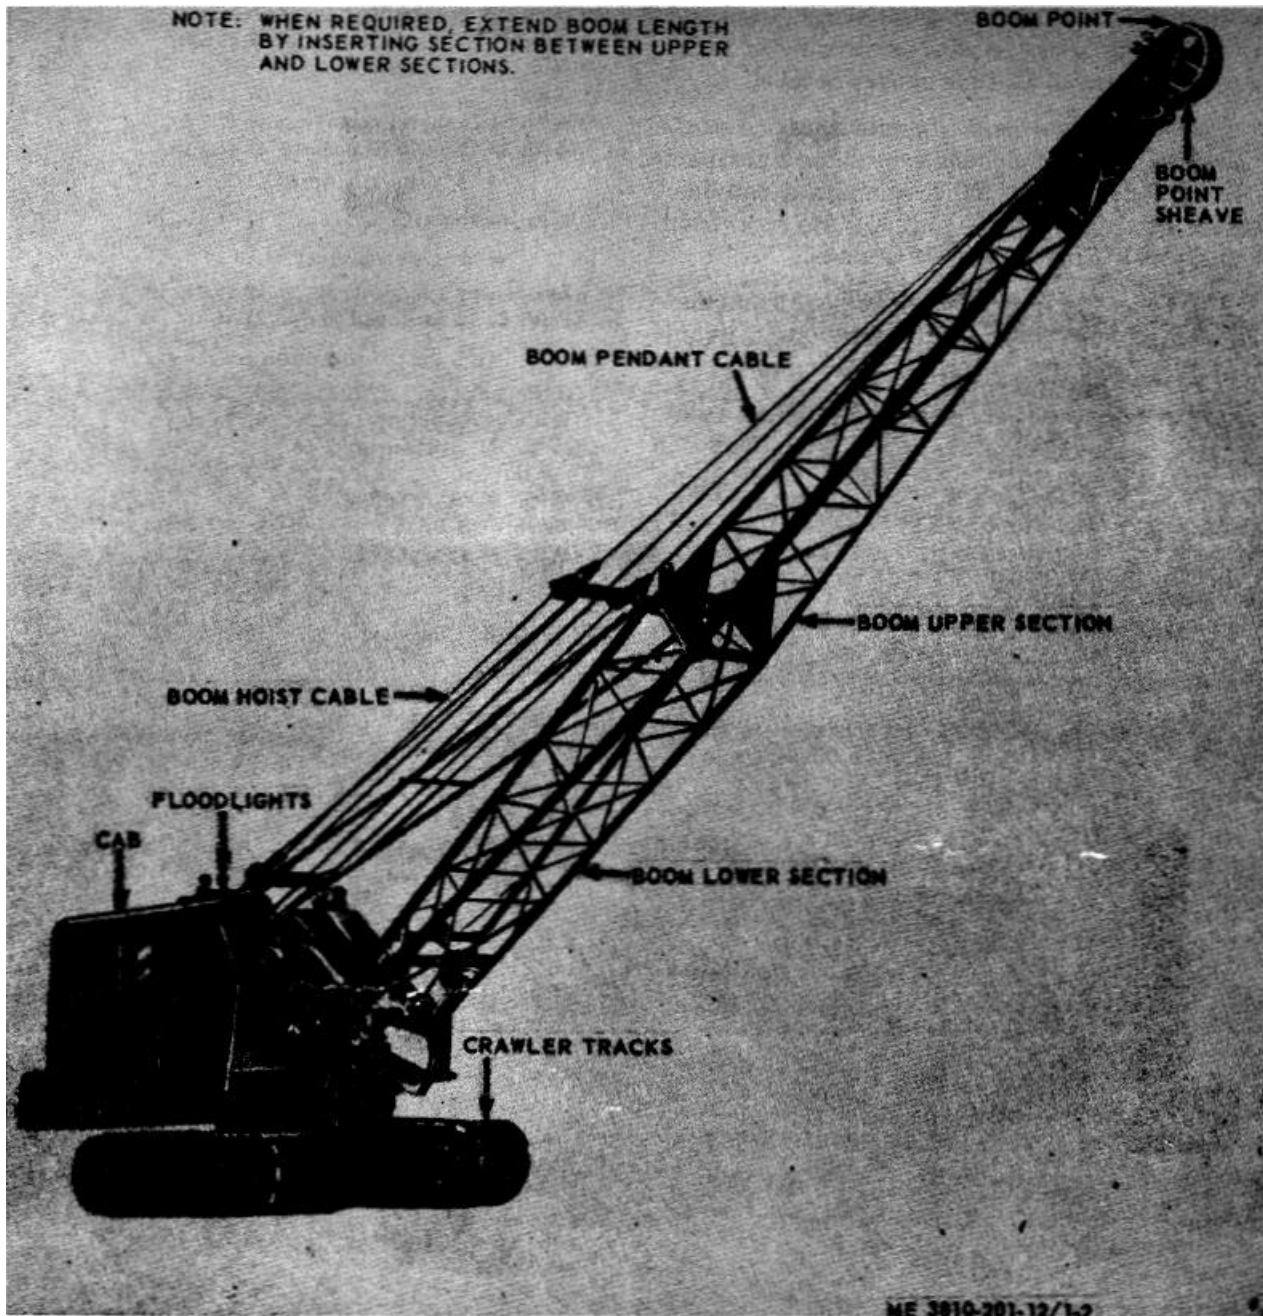

Figure 1-2. Crane-shovel basic unit, with crane boom installed.
d. *Crawler Mounting.* Crawler mounting (fig. 1-2) consists of two crawler tracks and the carbody. Each crawler track consists of forged steel side bars, (pinned together), with track shoes bolted on. Tracks are chain driven by the tread sprocket, and supported by a large idler roller and numerous track rollers. The carbody houses the propelling and steering mechanism.